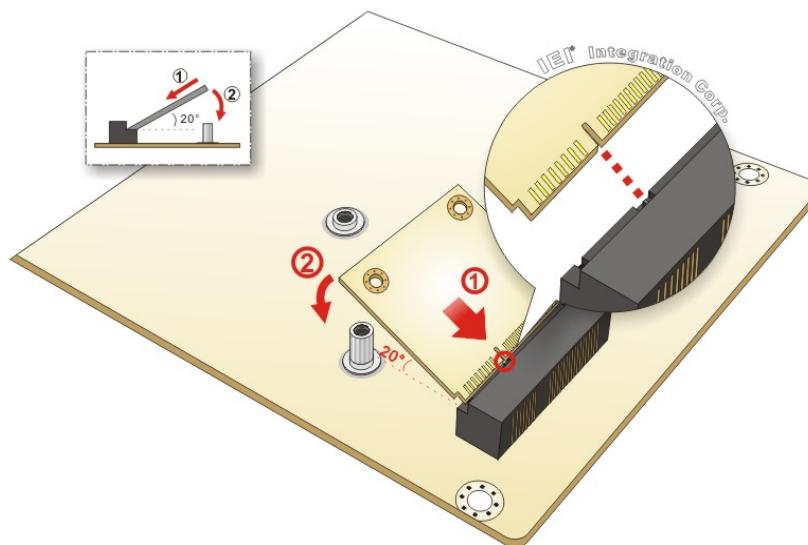

Figure 3-12: Inserting the Half-size PCIe Mini Card into the Slot at an Angle
Step 4: Line up the notch on the card with the notch on the slot. Slide the PCIe Mini card into the slot at an angle of about 20° (**Figure 3-12**).